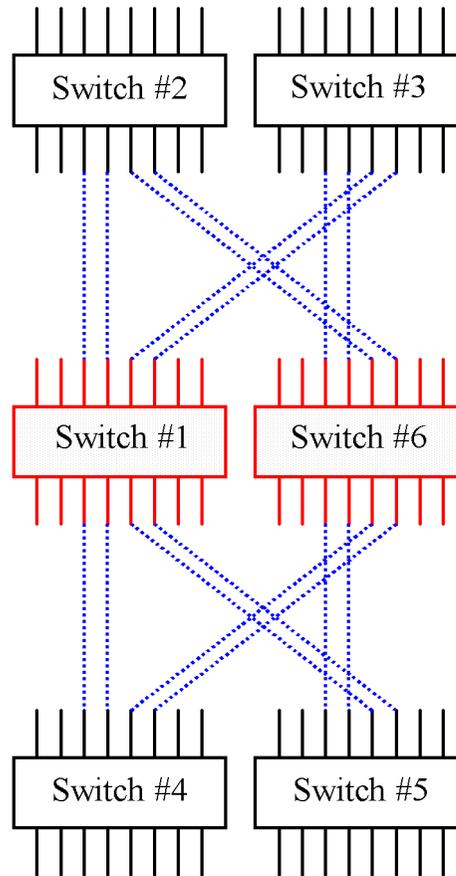

Figure 7. 64-Port High Connectivity Configuration
Figure 7 is a logical representation of six 16-port Compaq Fibre Channel switches configured as an integrated 64-Port high connectivity switch.
**NOTE:** Figure 7 is a logical representation of the switches in this configuration. The following table lists the physical ISL cables with the source and destination port used for the 64-Port high connectivity configuration.